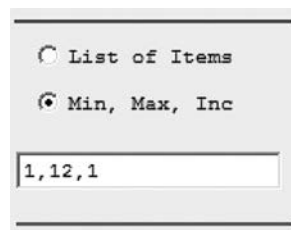

Figure 6-1-3 Entering Item Numbers into the Picker.
- Check the Min,Max,Inc radio button (Figure 6-1-3)